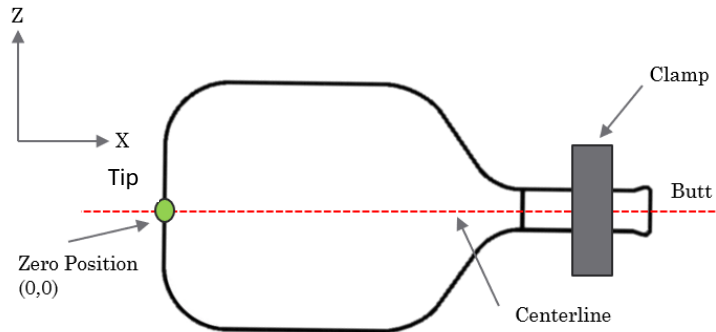

Figure 3
6. Align the paddle in the X and Z direction so that the zero position is at the tip end of the paddle on the centerline (see Figure 3) using a laser alignment tool to identify the cannon target location.